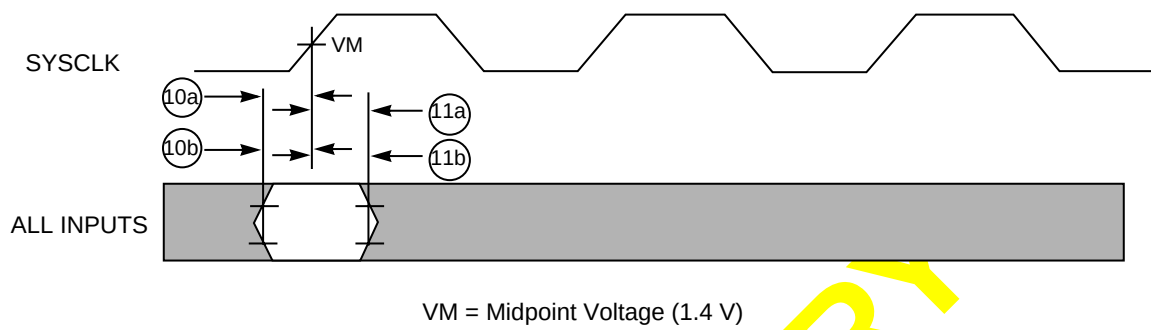
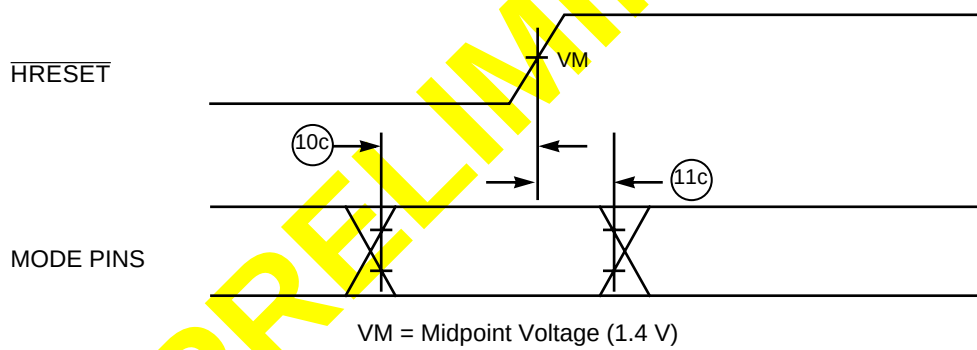

Figure 2. Input Timing Diagram
Figure 3. Mode Select Input Timing Diagram
Table 7 provides the input AC timing specifications for the PID7v-EC603e as defined in Figure 2 and Figure 3.
- The setup and hold time is with respect to the rising edge of $\overline{\text{HRESET}}$ (see Figure 3).
Figure 2 provides the input timing diagram for the PID7v-EC603e.
Figure 3 provides the mode select input timing diagram for the PID7v-EC603e.